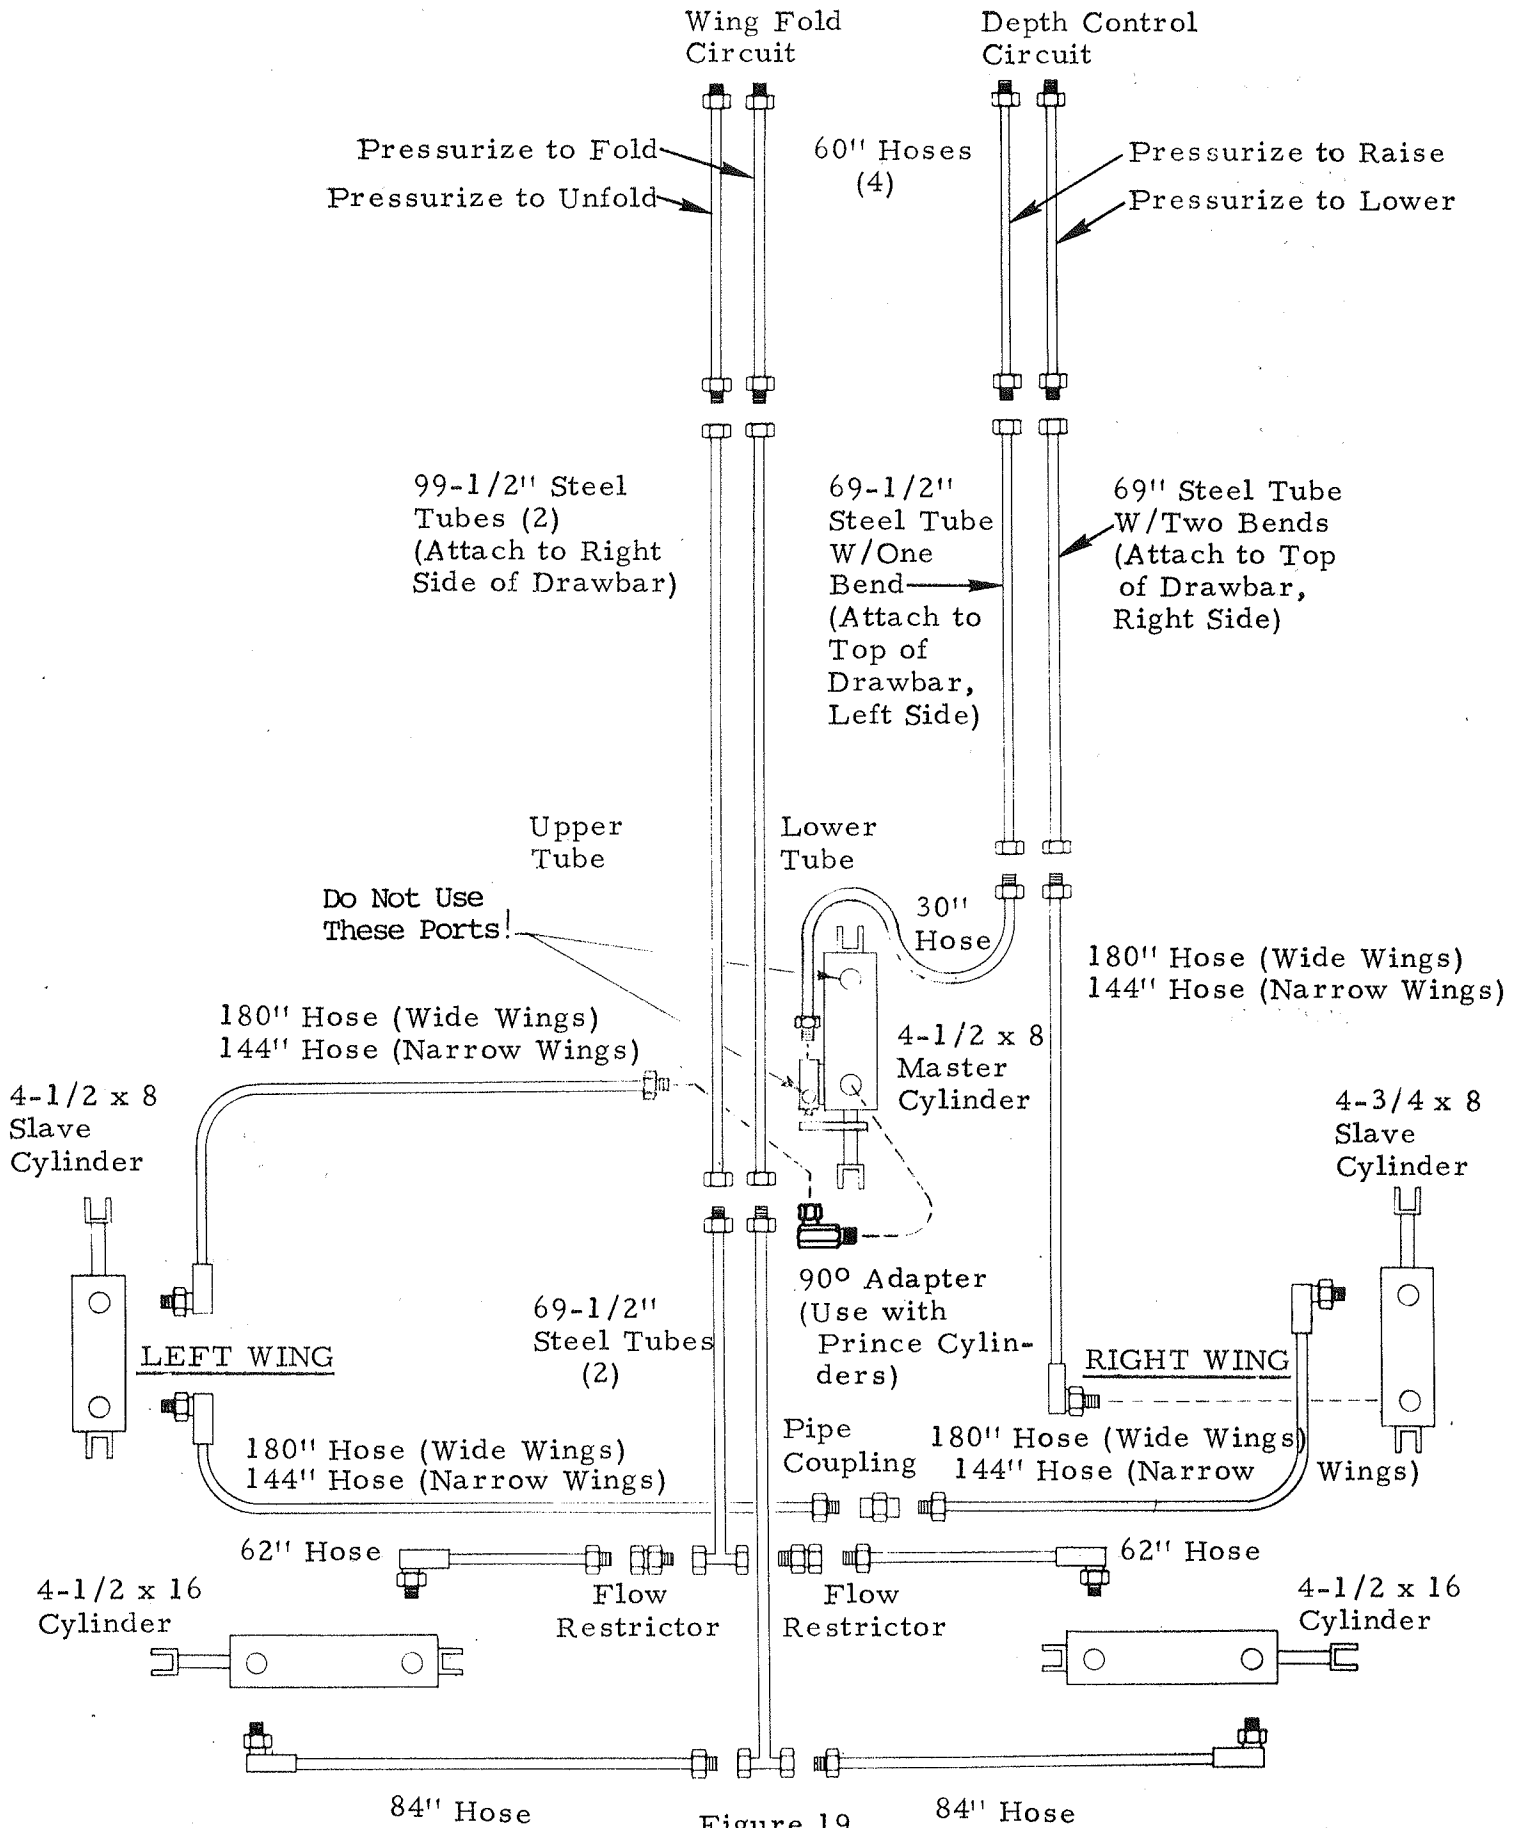

Figure 19
13. Install hydraulic lines according to hydraulic circuit diagram, Figure 19, securing hoses with plastic cable ties provided. Steel tubes are fastened with 1" x 2-1/2" x #12 formed clamps and 5/16" x 1" cap screws. See Figures 4, 5, 7 and 8 for general hose routing.